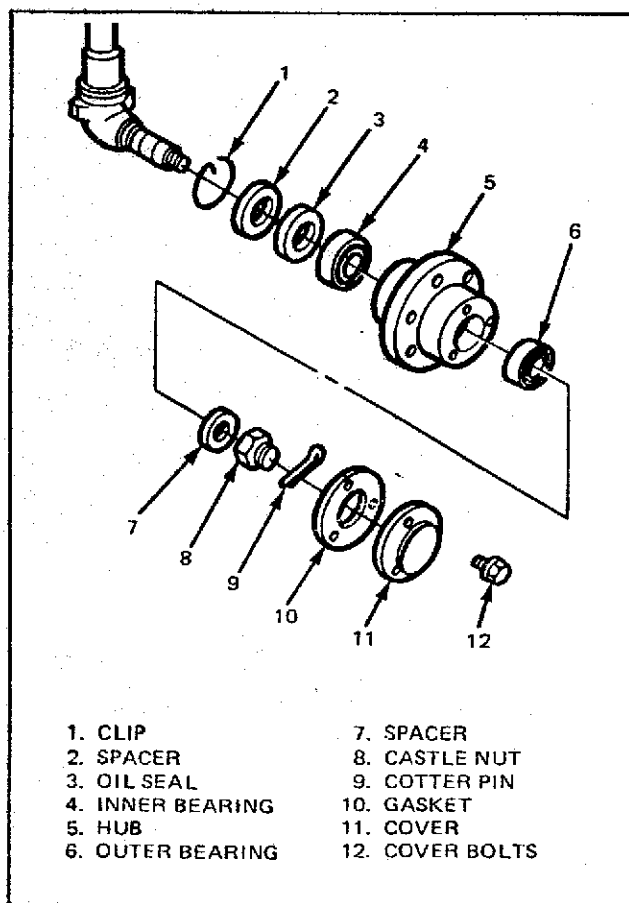

Figure 52 — Servicing Front Wheel Bearings — Two-Wheel Drive
2. Jack up one of the front wheels, remove the wheel and remove the hubcap, the cotter pin, and the nut, Figure 52. Remove the thrust washer, outer bearing, and then the hub.